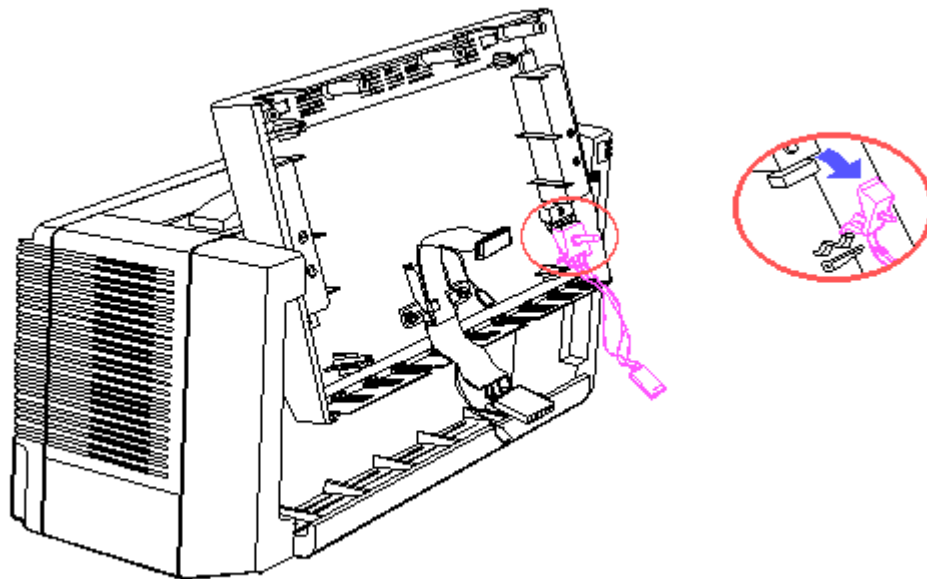

Figure 8-79. Removing the Brightness Control Assembly
4. Push the lower legs of the brightness control assembly upward, and snap the assembly out (Figure 8-79).